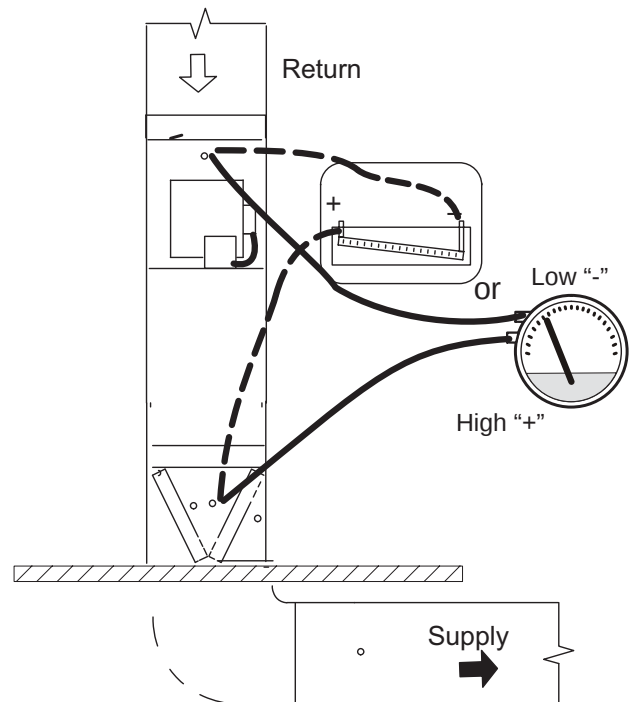

Figure 49.
1. Tap locations shown in **Figure 49**.